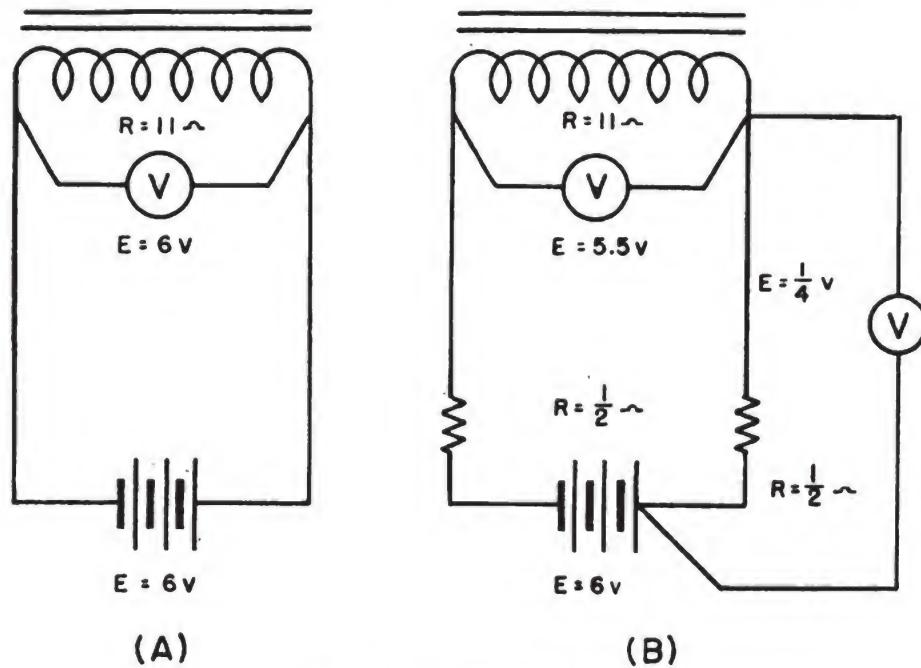

Figure 47.—Voltage drop.
If you assume that a simple circuit has no resistance in the connecting wires, you will have a diagram such as you see in (A) of figure 47.
But if you make the actual allowance for the resistance of the connecting wires, you will have a diagram such as you see in (B) of figure 47. Here, the two resistors represent the resistance of the connecting wires. What you actually have in (B) is a series circuit.
So, with the voltage and resistance values indicated in (B) of figure 47, an application of Ohm's Law will show that  $\frac{1}{4}$  volt exists across each connecting wire. A low reading voltmeter connected at the proper points will show the same result. You have a voltage drop of  $\frac{1}{4}$  volt.